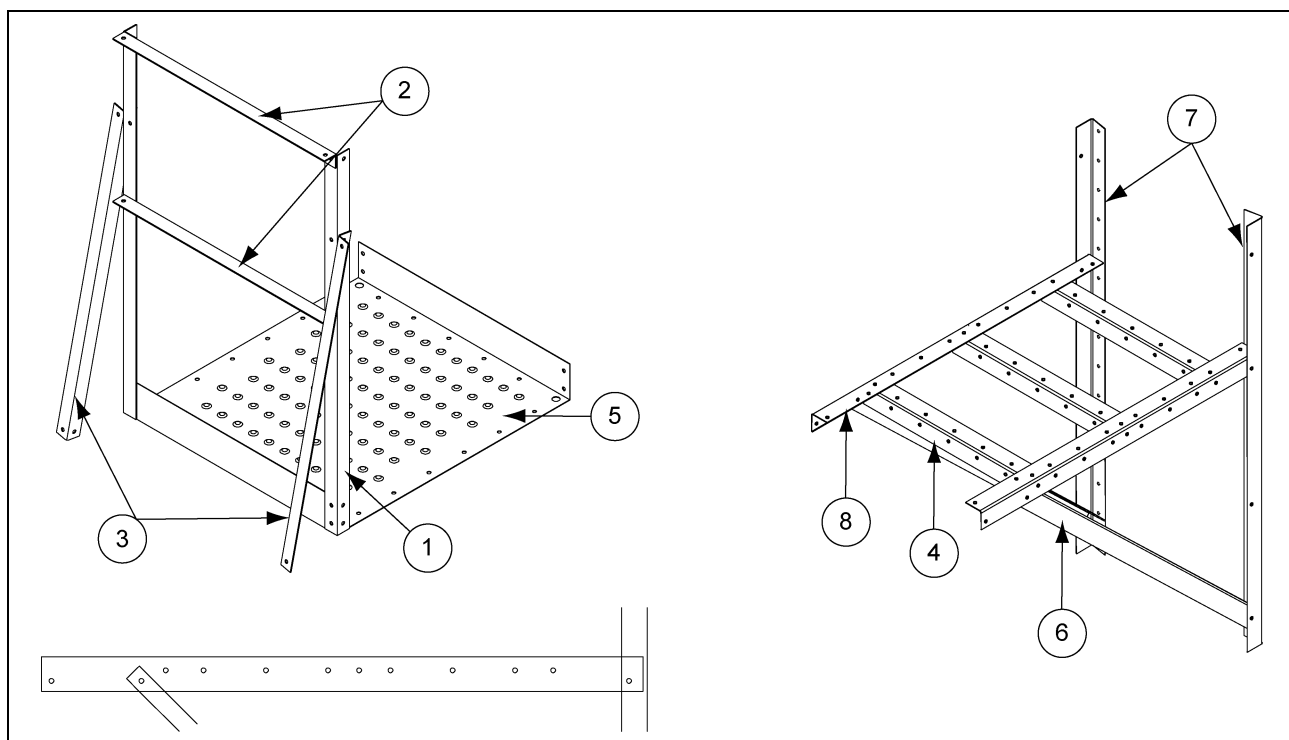

Figure 9U
Refer to Figure 9U for proper location of cross over platform. Begin by assembling the cross over platform support frame using 5/16" x 3/4" truss head bolts and nuts. When attaching platform vertical support to bin sidewall field drill sixteen (16) 3/8" diameter holes for each support spaced every 4". Be sure and use 5/16" x 3/4" bin bolt on vertical support to sidewall. Special attention should be taken when assembling the platform support that the support brace is placed correctly.